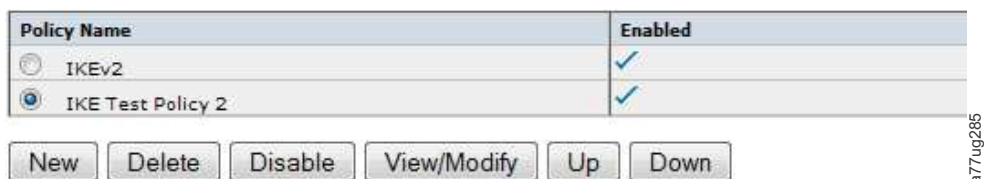

Figure 110. IPSec Policy editing
3. Figure 110 shows the IPSec maintenance main controls.